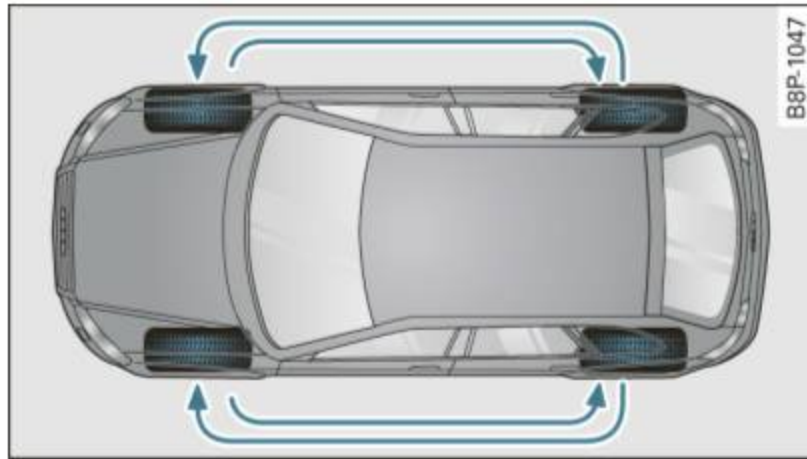

Fig. 174 Rotating tires for more even wear
- Please rotate tires as shown ⇒ page 256, fig. 174.